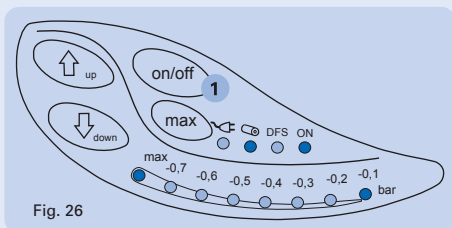

Fig. 26
1. Switch the device on by pressing the ON/OFF button (fig. 26 (1)). The ON LED signalizes that the pump is switched on by illuminating green.